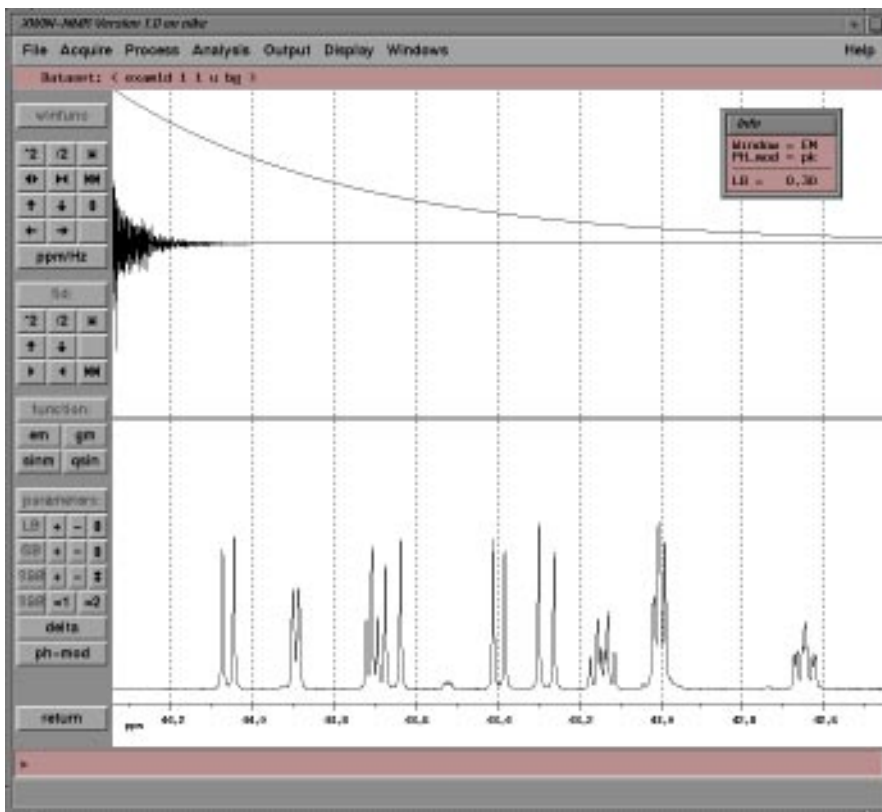

Figure 2.2 Interactive adjustment of window function
5. XWIN-NMR allows you to adjust the parameters of window functions interactively with the mouse, and view the effect on the fid and the transformed spectrum simultaneously. Open the *Process* menu, and activate the command Manual window adjust. The screen layout will change to that of Figure 2.2: